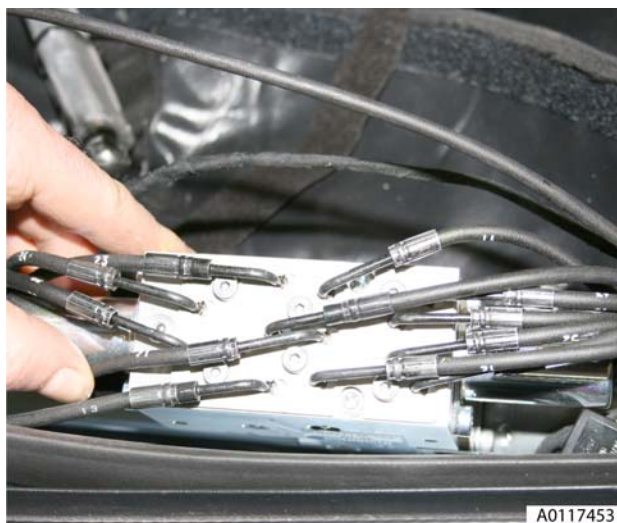

Figure 11
18. Loosen (x6) screws on pump retaining plate (see Figure 11).